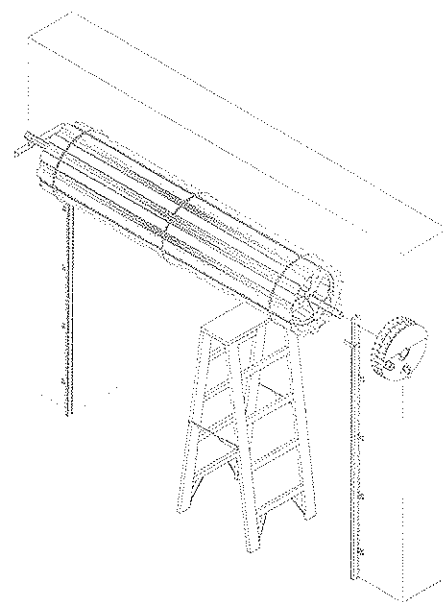
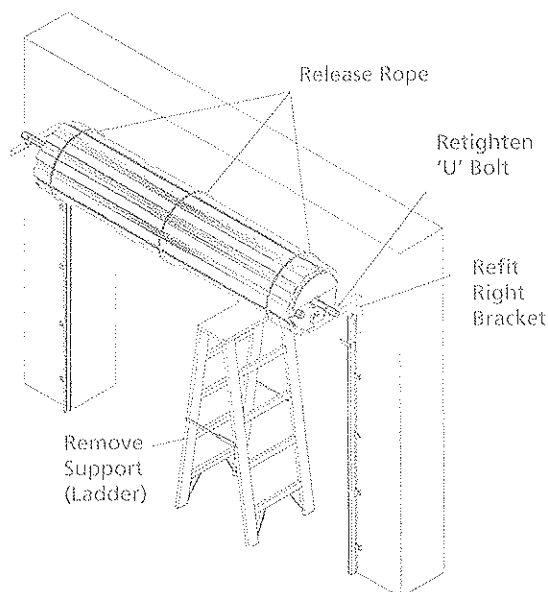

Fig. 3
Fig. 4
- Make sure the door supporting prop is secure. While the door is supported remove the right hand wall mount bracket. (Fig. 3)
- Remove the geared motor (27) and motor spacer (28) from the packaging material. Align the spacer over the three motor mounting holes and insert the motor assembly between the spoke sections of the drum wheel. Align the assembly with the three counter sunk holes in the spoke section. Affix with screws supplied 3 X (6x25mm counter sunk) using an appropriate flat bladed screwdriver. (Ensure the motor assembly is securely fixed to the drum wheel before proceeding)
- Remove the motor shaft screw and slide on the main drive gear (10), refit the shaft screw and tighten.
- Slide the Main Ring Gear (32) over the door axle and engage teeth with the motor drive gear.
- Slide main body (2) over door axle, make sure the manual release pin (23) is in manual position. locate contact brushes (25) into inner and outer slip ring (7,8)
- The Main Body should now be sitting flush up against the Ring Gear. Attach Split Ring (9) to Slip Ring extrusion and secure split ring self tapping screw. (6 3/8)
- Replace right hand side wall mount bracket (Fig. 4)